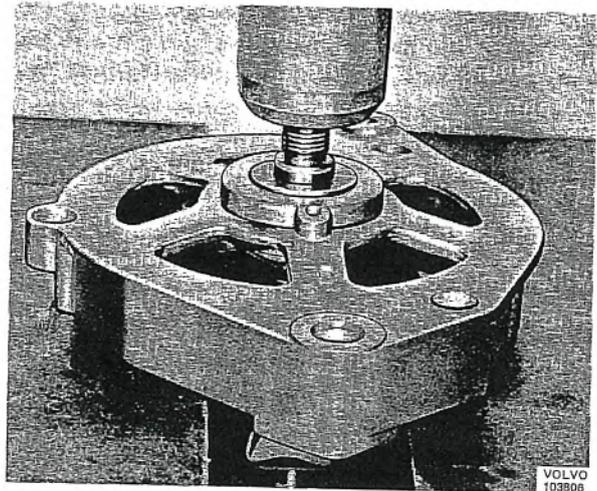

Fig. 3-33. Removing rotor
4. Press the rotor out of the slip ring end shield, see Fig. 3-33.